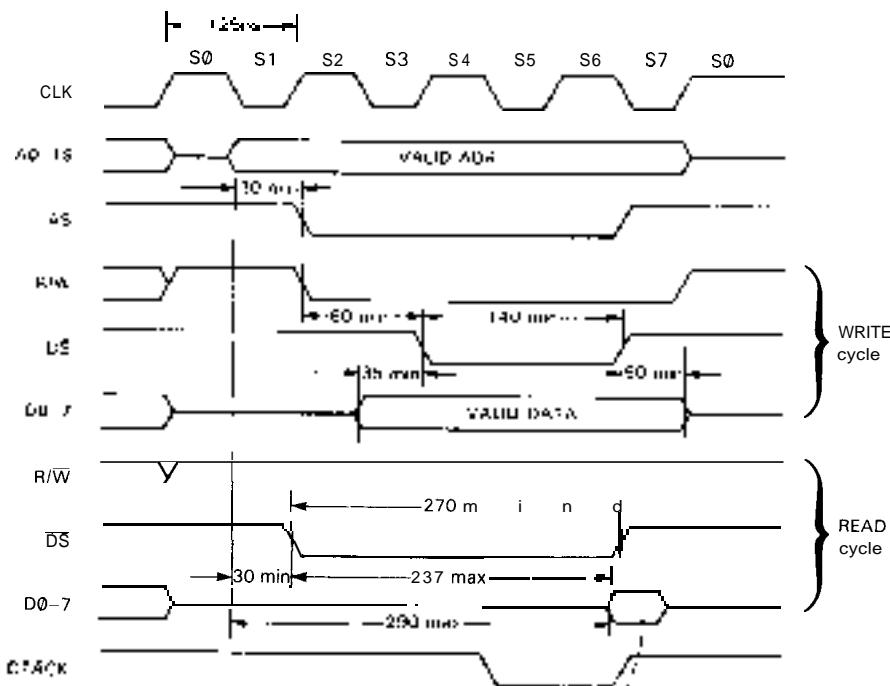

Figure 11.4. 68008 READ/WRITE cycles (8MHz, no wait states).
Programmed data transfer is shown in Figure 11.4; we have also included some signals (CLK and AS') that you can generally ignore in your circuit design. The 68008 uses a single data strobe (DS') and a read/write direction line (R/W'), rather than the PC's pair of strobes (IOR', IOW').
edge signal DTACK' from the addressed device before completing the cycle. If DTACK' comes back before the end of S4, no wait states are inserted, and the timing is as shown in Figure 11.4; but if DTACK'
**read/write** port. The address lines are decoded and qualified with DS' and R/W' to generate the D-register clock (write) and three-state enable (read). DTACK' is asserted whenever this port is addressed, since you never need wait states for devices as fast as octal registers; we've used the usual trick of making a three-state driver into an open-collector driver. Note that we've used the trailing edge of DS' to clock the D register; that is because the 35ns minimum "valid data" to the leading edge of DS' (see Fig. 11.4) is uncomfortably close to the setup time requirement of many octal registers (e.g., both LS and HCT families have  $t_{\text{setup}} = 20\text{ns}$ , min). In fact, if the data bus is *buffered* (for example with '245 octal bidirectional buffers), the additional delay of DATA relative to DS' might violate minimum setup time for the
and Vectron. The 68008 likes a symmetrical clock waveform, which is best generated by dividing the oscillator output with a toggling flip-flop. Maximum clock speeds are usually indicated in microprocessor part numbers (memory, too): Current versions of the 68008 go to 10MHz (MC68008P10). Two-byte instructions generally execute in four clock periods (as in Fig. 11.4), while instructions with the fancier addressing modes have to do more memory fetches and can take up to 70 clock periods or so.
Finally, we used an **8-bit** parallel-out shift register ('164) as a state machine to generate several necessary signals in sequence. The shift register is held reset until the CPU asserts **AS'**, which signals the beginning of a bus cycle (Fig. 11.4), whereupon 1's begin propagating down the register, one stage per CPU-clock rising edge. The **Q0** output is used to generate a delayed **RD'** signal for two fussy peripherals (SCC and CIO), as we'll explain shortly. Several I/O devices are slow and require wait states; we therefore used shift register output **Q2** to generate a delayed **DTACK**, resulting in two wait states for all I/O ports (in our scheme, all I/O is memory-mapped above \$80000, i.e., **A19** asserted), and no wait states for memory (**A19** not asserted). We're in trouble if a 1 ever propagates as far as the last stage of the shift register, since all bus cycles should end (with disassertion of **AS**) long before that. Therefore we've used the last stage (**Q7**) to assert **BERR**, which forces a vectored jump (through \$08) rather than letting the CPU hang forever. Such a bus "time-out" signal is particularly important in a general-purpose computer, where a CPU access to a nonexistent peripheral would otherwise crash the machine.
**Memory timing.** Before going on to I/O, it's worth looking at the memory timing situation. We said earlier that our DTACK circuit generated no wait states for memory accesses. That's OK as long as the memory is in fact fast enough to satisfy the timing constraints of the read and write cycles in Figure 11.4. But is it? The way to find out is to start with the 68008 no-wait-state timing diagram, then subtract worst-case delays of the supporting "glue" circuitry to see how much time is left for the memory to respond. Let's try it.